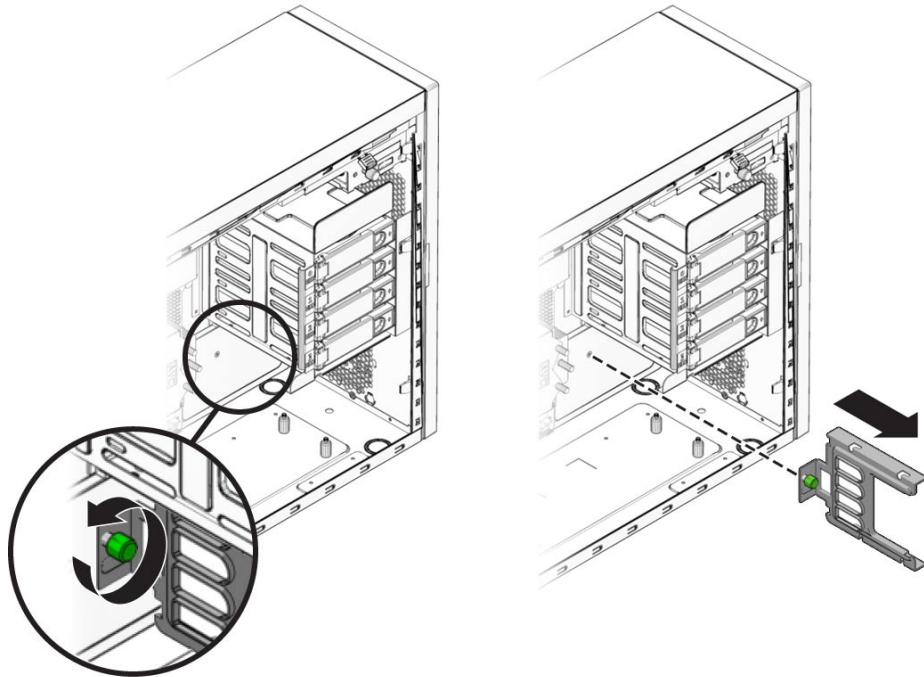

FIGURE 3-9 Removing the Hard Drive Cage Support Bracket
- 4 To remove the hard drive cage support bracket, completely loosen the captive retaining screw (see Figure 3-9).